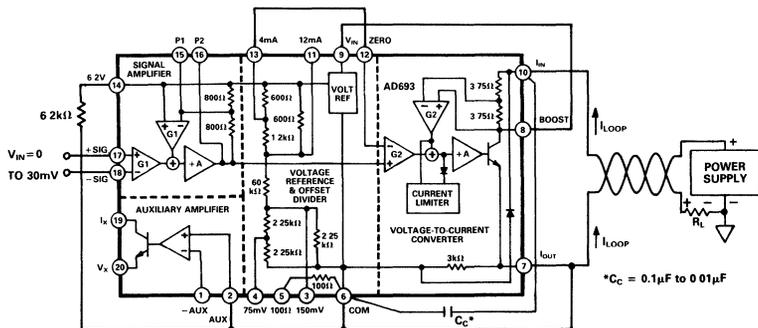

Figure 10. Minimal Connection for 0-30mV Unipolar Input, 4-20mA Output
- ⁶The operational voltage (V_{OP}) is the voltage directly across the AD693 (Pin 10 to 6 in two-wire mode, Pin 9 to 6 in local power mode). For example, V_{OP} = V_S - (I_{LOOP} × R_L) in two-wire mode (refer to Figure 10).
Figure 10 shows the minimal connections for basic operation: 0-30mV input span, 4-20mA output span in the two-wire, loop-powered mode. If not used for external excitation, the 6.2V reference should be loaded by approximately 1mA (6.2kΩ to common).